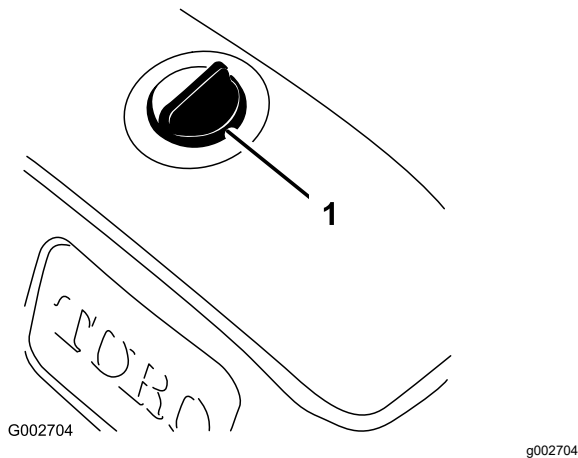

Figure 39
3. Clean the area around the hydraulic-reservoir cap to prevent debris from entering the tank (Figure 39).